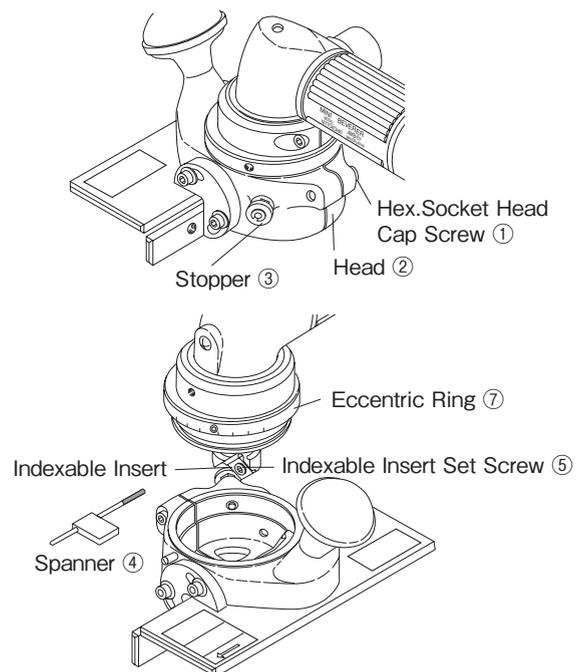

Fig. 19
(1) Loosen the Hex. Socket Head Cap Screw ① of the Head ② (Fig. 19).
(2) While pulling the Stopper ③ remove the Head ② .
(3) Unscrew the Indexable Insert Set Screw ⑤ with the Spanner ④ and remove the Indexable Insert.
(4) Install a new Indexable Insert (or changing the side of Indexable Insert) paying attention to its shape.
(5) While keep pulling the Stopper ③ , install the Head ② on the body.
(6) Firmly install the Head ② on the end of Eccentric Ring ⑦ without making any clearance and tighten the Hex. Socket Head Cap Screw ① .